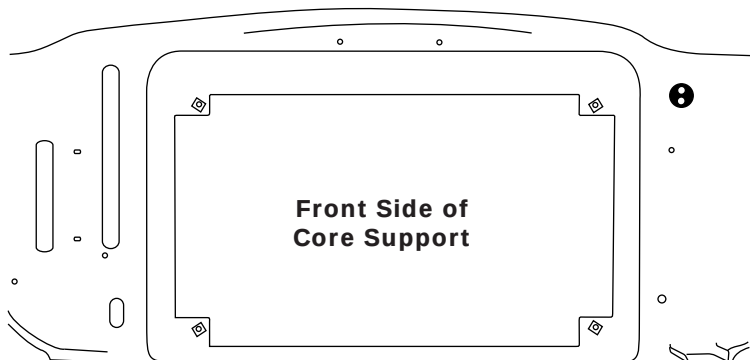

Figure 2
2. Install the passenger-side mounting bracket onto the condenser using (4) 10-24 x 3/8" pan head screws and (4) 10-24 nuts with star washers (See Figure 2, below). **NOTE: The bracket mounts to the outside of the flange through the 1st & 2nd holes from the right side of the condenser (Rear View).**
3. Secure the condenser to the core support using (4) 1/4-20 x 1" hex bolts and (4) 1/4" flat washers as shown in Figure 2, below.
4. Reinstall the fan shroud using the OEM hardware as shown in Figure 2, below.